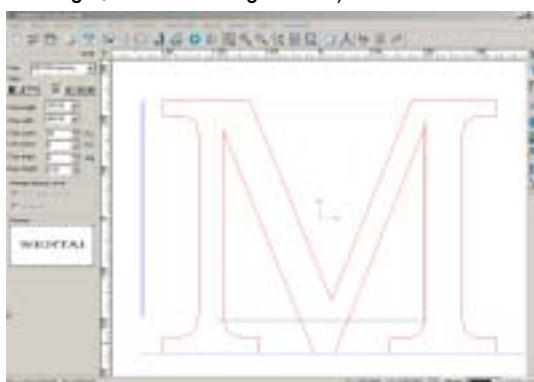

Fig. 12-12
4. Select the letter to edit it. (You should choose the font, set values of height, width, character space, line space, character angle, and base height here.) The result is shown in Fig. 12-12.